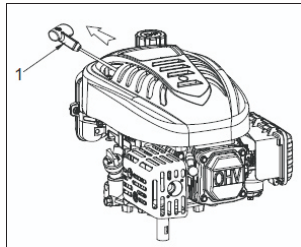

Fig 3
**⚠ WARNING:** Do not allow the starter grip (1) to snap back against the engine. Return it gently to prevent damage to the starter. (Fig. 3)